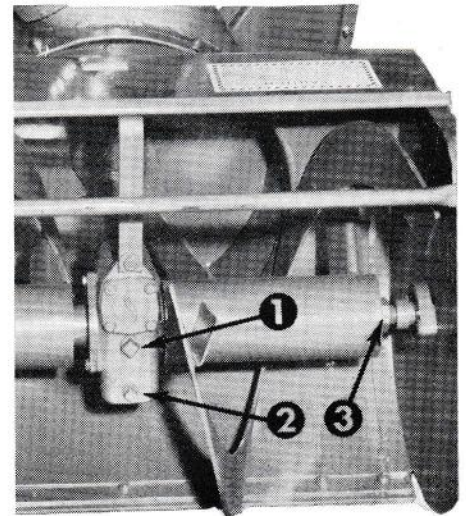

Figure 25
All major bearings of the MA-210 and MA-211 Snowblower that require lubricant are permanently lubricated, or are lubricated from the tractor transmission. However, the operator should check the oil level in the gear box by removing the upper pipe plug. Oil should come up to the bottom of this hole. If the oil level should ever be low, add worm type gear lubricant as recommended for truck worm-gear axles in your area. See Figure 25.
**REEL CLUTCH.** The Reel Clutch is properly adjusted at the factory. If it should become necessary to tighten the protective friction clutch in the reels, turn off the tractor engine, disengage the power take-off, and block the rotation of the fan. Now tighten the large nut on the left end of the reel shaft (as viewed from the rear of the Snowblower). See Figure 25.